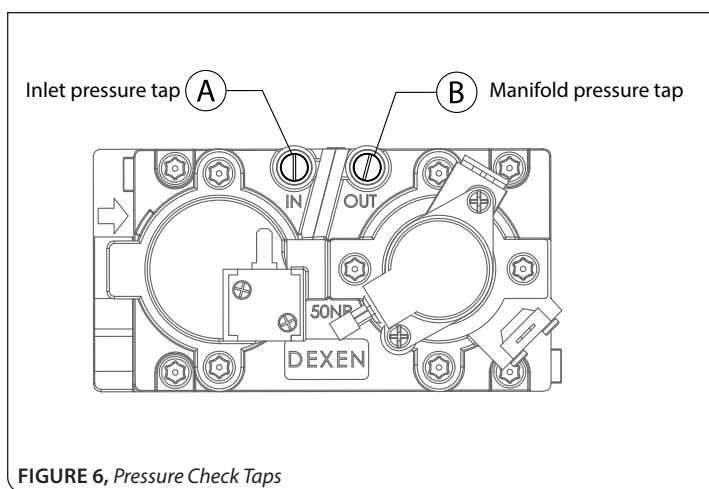

FIGURE 6, Pressure Check Taps
- Step 1: Loosen the inlet (IN) pressure tap screw (counterclockwise) on the gas valve. See (A) in **FIGURE 6**.
- Step 1: Loosen the manifold (OUT) pressure tap screw (counterclockwise) on the gas valve. See (B) in **FIGURE 6**.